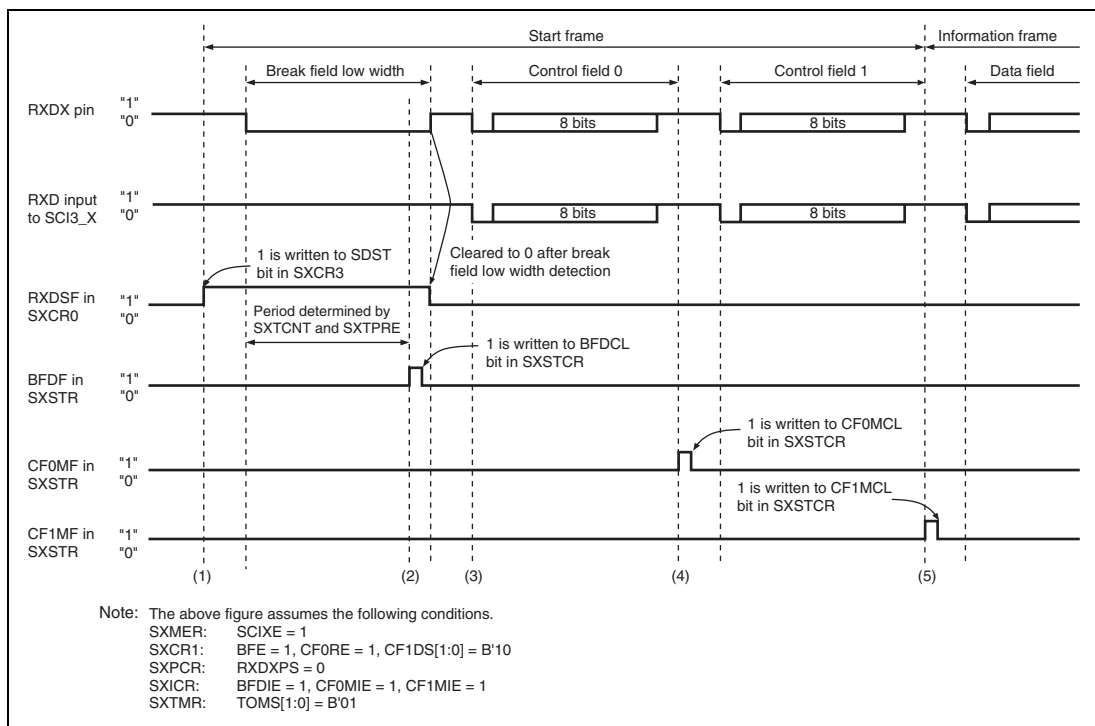

Figure 22.8 Start Frame Reception Example
Figure 22.8 shows an operation example of receiving a start frame consisting of the break field low width, control field 0, and control field 1. Figures 22.9 and 22.10 show flowcharts for receiving a start frame. Figure 22.11 shows the state transitions of the SCIX.
The SCIX receives a start frame in the following sequence. Steps 1 to 5 correspond to (1) to (5) in figure 22.8.
Steps 1 to 4 are identical to those given in the start frame reception example shown in figure 22.8.